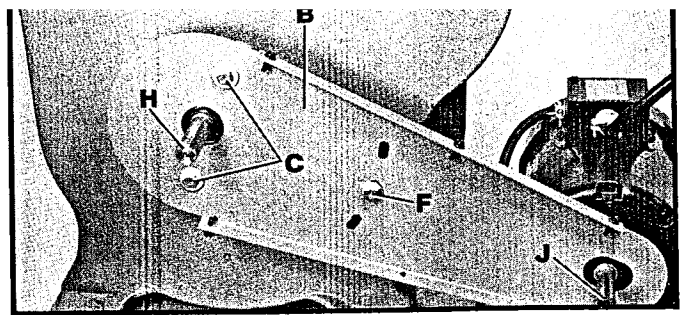

Fig.12
4. **NOTE:** Make certain the arbor shaft (H) Fig. 12, and motor shaft (J) are centered in the holes of the belt and pulley guard (B) as shown, then tighten screws (C) and (F).